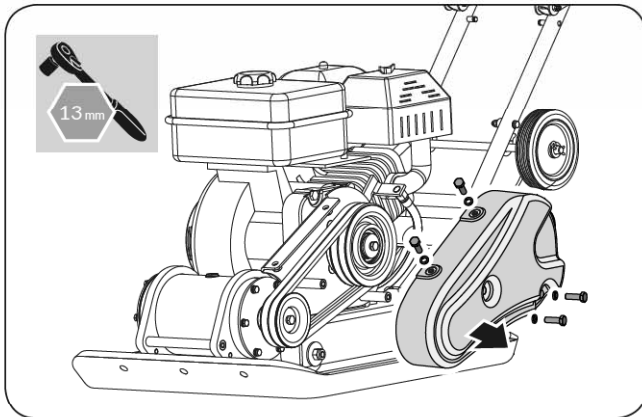

Figure 7a
2. Remove the belt guard to access the V-belt(s). (See **Figure 7a**)
2. Remove the belt guard to access the V-belts. (See Figure 7a)